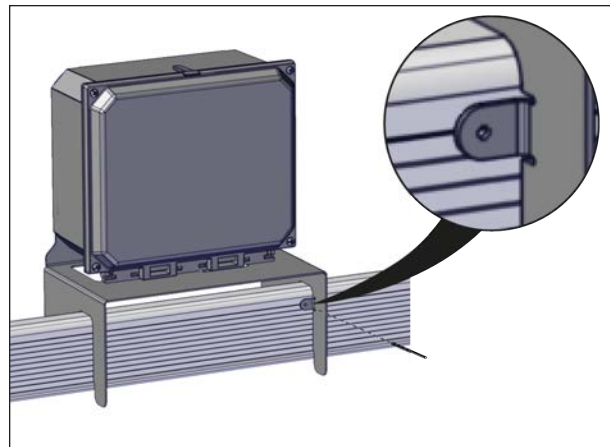

FIGURE 86: DRILL A HOLE THROUGH THE TAB
5. When the AC control box is in place on the U-frame, use the provided 5/32" drill bit to drill a hole through the tab (located on the holding bracket of the control box) and into the U-frame, and insert an 8-32 x 3/8" hexagonal slotted thread-cutting screw, see Figure 86.